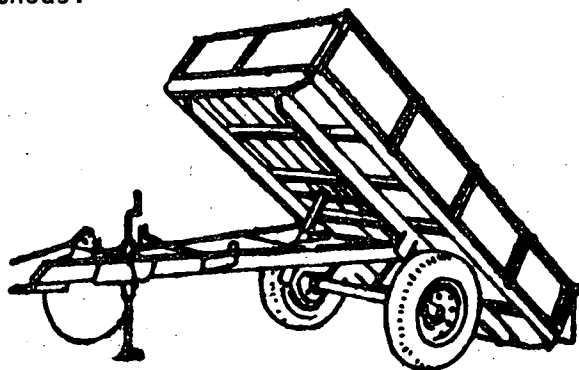

Fig. 4
*Tilting the platform* backwards or sideways (Fig. 4) by the effect of the weight of the load. This is also done by simple action remote controlled hydraulic cylinders